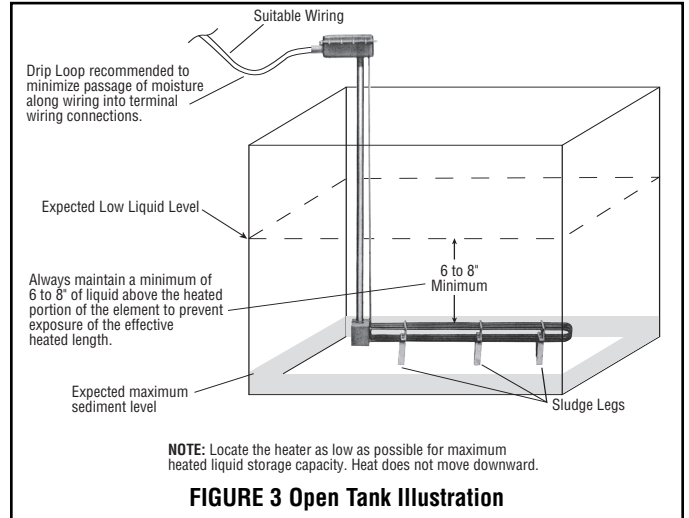

FIGURE 3 Open Tank Illustration
3. **IMPORTANT:** Mount the heater in the tank so that the liquid level will always be above the effective heated portion of the heater. If the heater is not properly submerged, it will overheat and damage the heating elements and create a possible fire hazard due to excessive sheath temperatures. See "Warning" under "Installation" section. (see Figure 3).
4. Heater must be supported from tank bottom. Heater must not be operated in sludge. Sludge legs can be provided. Assemble as shown in Figure 3.